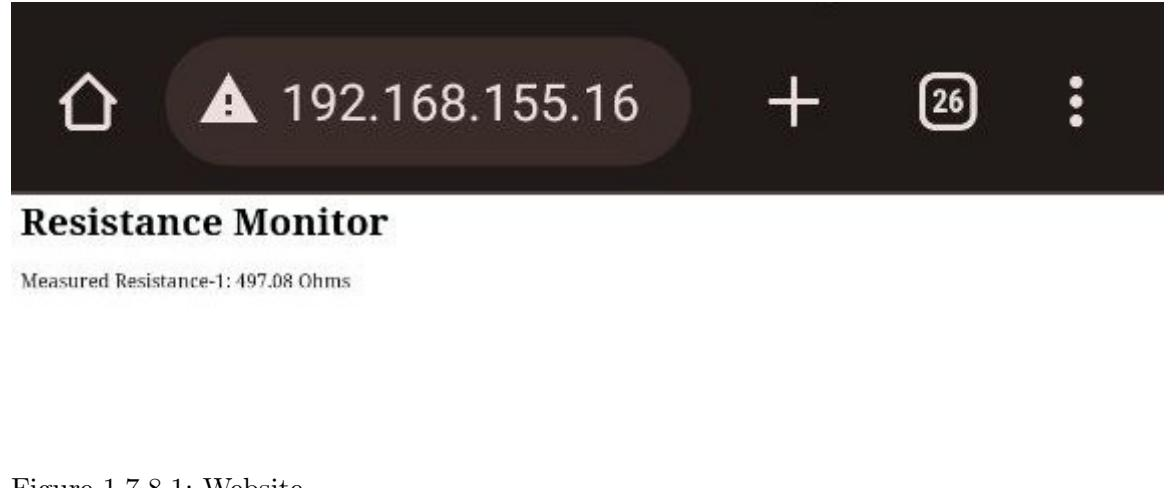

Figure 1.7.8.1: Website
1.7.8. In the website loaded by the IP address of vaman-ESP the Unknown resistance is displayed as shown in Fig. 1.7.8.1